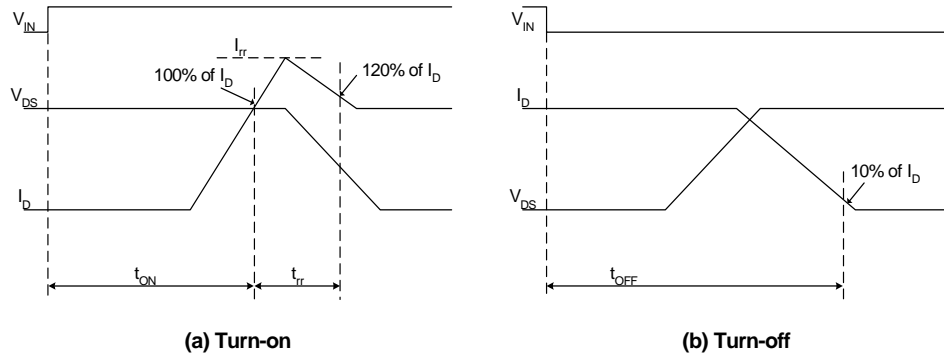

Figure 6. Switching Time Definitions
- t_{ON} and t_{OFF} include the propagation delay of the internal drive IC. Listed values are measured at the laboratory test condition, and they can be different according to the field applications due to the effect of different printed circuit boards and wirings. Please see Figure 6 for the switching time definition with the switching test circuit of Figure 7.